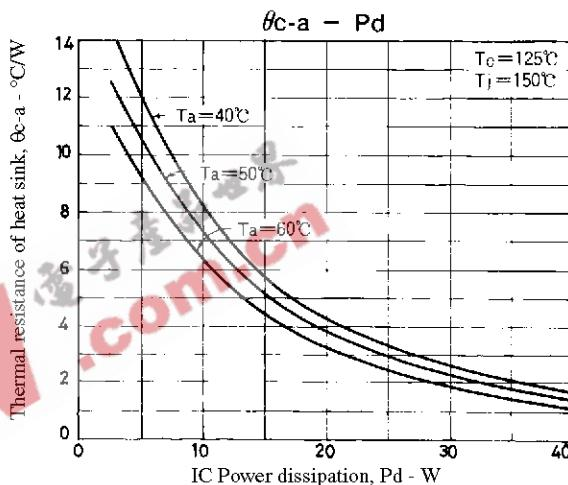

Figure 3. STK4028V $\theta_{c-a} - P_d$
Figure 3 shows the relation between P_d and θ_{c-a} given from (1) and (3) with T_a as a parameter.
The thermal resistance of a heat sink is obtained from Figure 3.